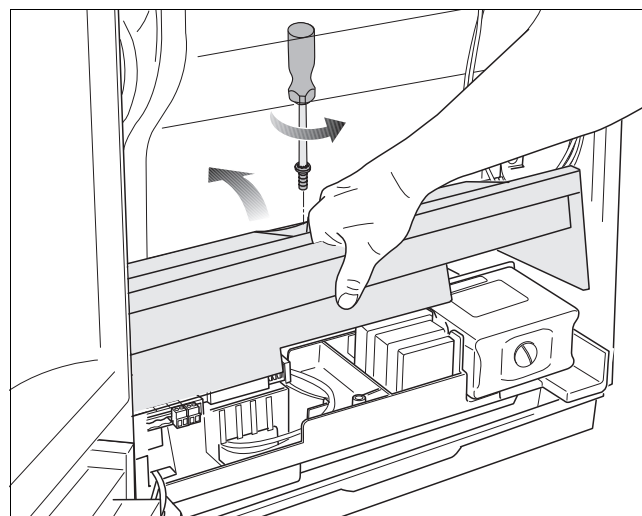

fig. 12 Pulling the cover over the electrical connections up
- Remove 1 screw to release the cover over the electrical connections and pull the cover up (fig. 12).